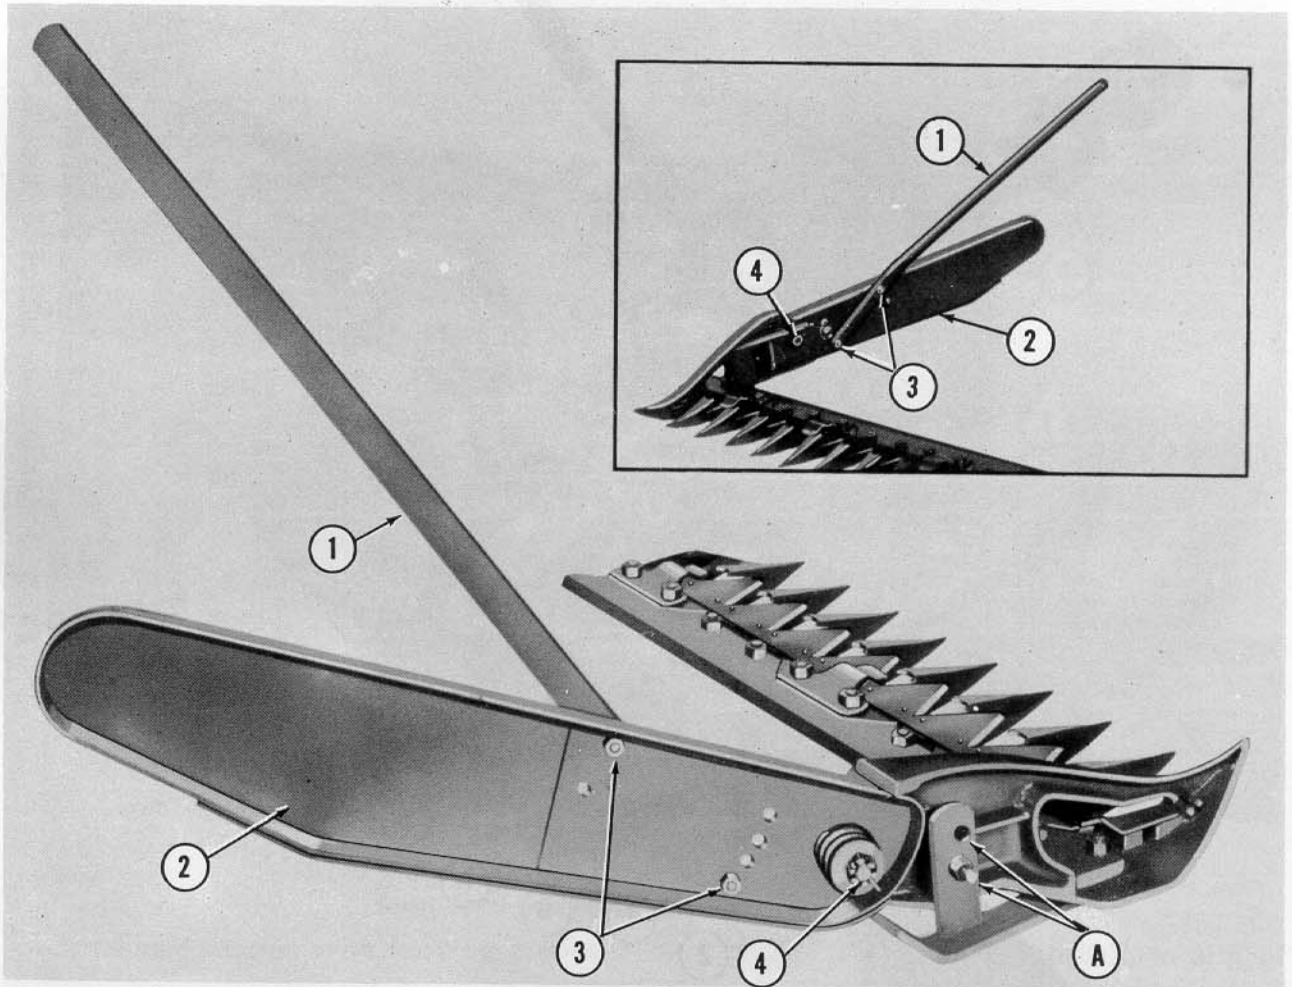

Figure 9
14. Attach grass bar (1), Figure 9, to inside of swathboard (2) with bolts (3), lock washers, and nuts provided on swathboard.
15. Bolt swathboard assembly to outer shoe of cutter bar by inserting bolt (4), Figure 9, from inside of inner shoe through swathboard. Place spring, large flat washer, and castellated nut on bolt.